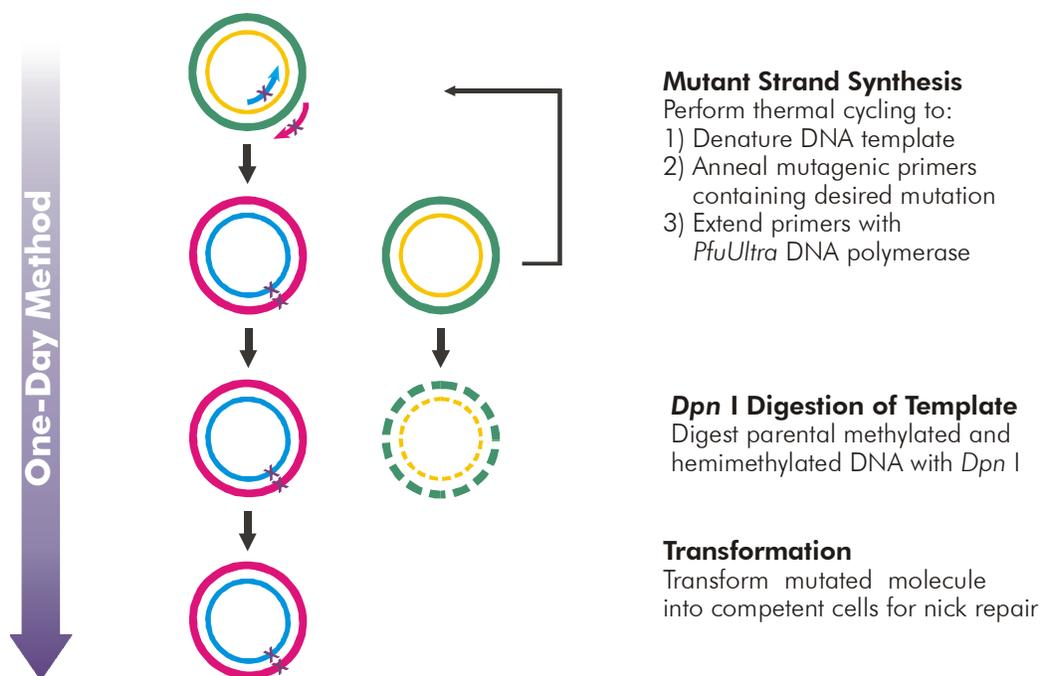

FIGURE 1 Overview of the QuikChange II site-directed mutagenesis method.
In vitro site-directed mutagenesis is an invaluable technique for characterizing the dynamic, complex relationships between protein structure and function, for studying gene expression elements, and for carrying out vector modification. Several approaches to this technique have been published, but these methods generally require single-stranded DNA (ssDNA) as the template¹⁻⁴ and are labor intensive or technically difficult. Our QuikChange II Site-Directed Mutagenesis Kit allows site-specific mutation in virtually any double-stranded plasmid, thus eliminating the need for subcloning and for ssDNA rescue.⁵ In addition, the QuikChange II site-directed mutagenesis kit does not require specialized vectors, unique restriction sites, multiple transformations or in vitro methylation treatment steps. The rapid three-step procedure generates mutants with greater than 80% efficiency in a single reaction (see Figure 1). The protocol is simple and uses either miniprep plasmid DNA or cesium-chloride-purified DNA. For long (~8 kb) or difficult targets, we offer the QuikChange II XL Site Directed Mutagenesis Kits (Catalog #200521 and #200522).
The QuikChange II site-directed mutagenesis kit is used to make point mutations, replace amino acids, and delete or insert single or multiple adjacent amino acids. The QuikChange II site-directed mutagenesis method is performed using *PfuUltra* high-fidelity (HF) DNA polymerase for mutagenic primer-directed replication of both plasmid strands with the highest fidelity. The basic procedure utilizes a supercoiled double-stranded DNA (dsDNA) vector with an insert of interest and two synthetic oligonucleotide primers, both containing the desired mutation (see Figure 1). The oligonucleotide primers, each complementary to opposite strands of the vector, are extended during temperature cycling by *PfuUltra* HF DNA polymerase, without primer displacement. Extension of the oligonucleotide primers generates a mutated plasmid containing staggered nicks. Following temperature cycling, the product is treated with *Dpn* I. The *Dpn* I endonuclease (target sequence: 5'-Gm⁶ATC-3') is specific for methylated and hemimethylated DNA and is used to digest the parental DNA template and to select for mutation-containing synthesized DNA.⁶ (DNA isolated from almost all *E. coli* strains is dam methylated and therefore susceptible to *Dpn* I digestion.) The nicked vector DNA containing the desired mutations is then transformed into XL1-Blue supercompetent cells.